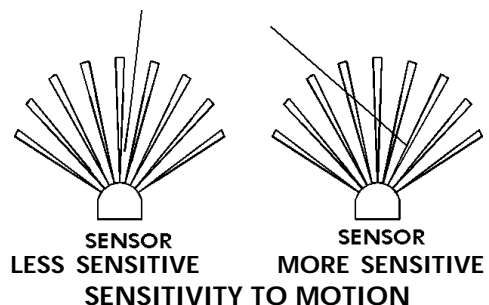

FIGURE 2
- Prior to mounting, keep in mind that the motion sensor is more sensitive to the motion, which is across the detection field and less sensitive to the motion, which moves directly towards the detector (FIGURE 2).